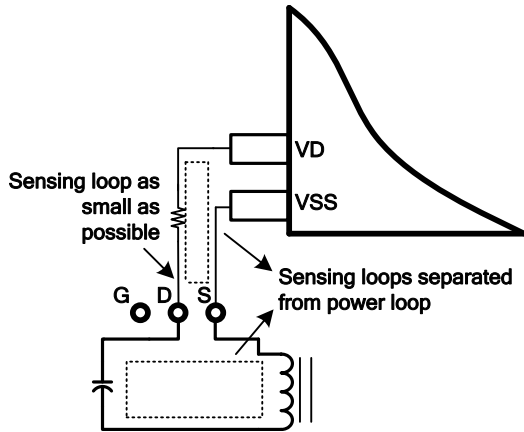
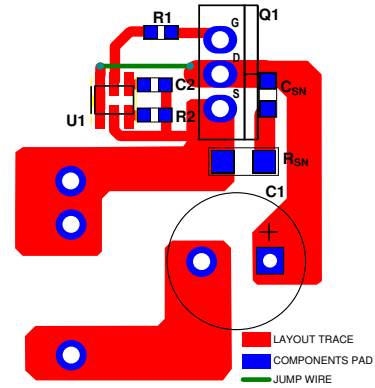

Figure 9: Voltage Sensing for VD/VSS
Figure 10: Layout Example with TO220 Package SR MOSFET
Efficient PCB layout is critical for stable operation. For best results, refer to Figure 9, Figure 10, Figure 11, and follow the guidelines below.
3. Keep the IC out of the power loop to prevent the sensing loop and power loop from interrupting each other (see Figure 9).
Figure 10 shows a layout example of a single layer with a through-hole transformer and a TO220 package SR MOSFET. RSN and CSN are the RC snubber network for the SR MOSFET. The sensing loop (VD and VSS to the SR MOSFET) is minimized and kept separate from the power loop. The VDD decoupling capacitor (C2) is placed beside VDD.